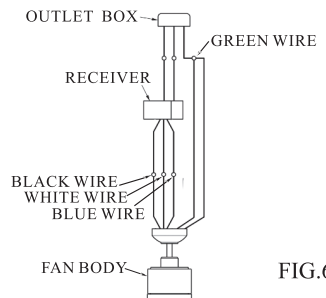

FIG.6
2. Connect the white wire from receiver to the white wire from fan with wire nut. Connect the black wire from receiver to the black wire from fan with wire nut. Connect the blue wire from receiver to the blue wire from fan with wire nut. Connect the green wire from ceiling, and green wire from hanger bracket with green wire from downrod ball with wire nut. (See fig.6)